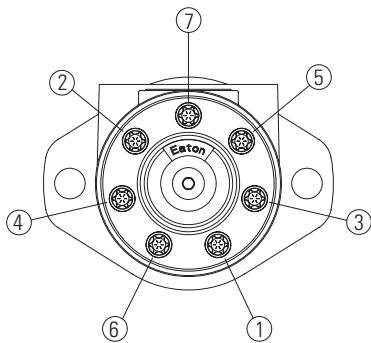

Figure 18
35. Install cap screws and seal washers (if applicable) in end cap. Pretighten screws to 7,4 Nm [40 lb-in]. Make sure seal washers are properly seated. Then torque screws 27-28 Nm [235-250 lb-in] in sequence, as shown in figure 18.